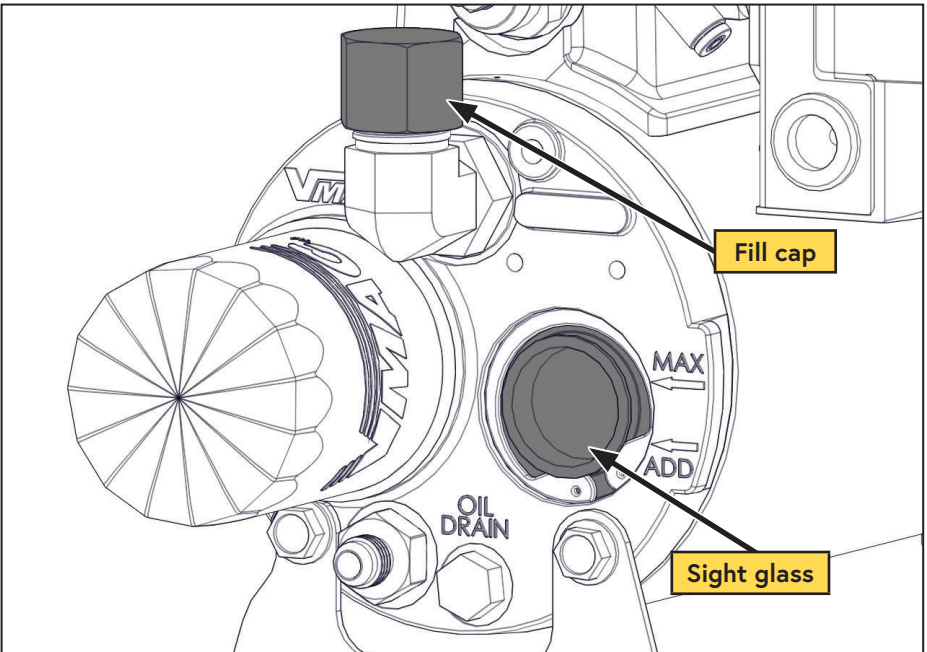

Figure 38 — Filling the WHASP Tank
- Remove the fill cap on the WHASP Tank (above the sight glass) (Figure 38).
- Using a funnel, pour oil into the tank until the oil level in the sight glass reaches the "MAX" line. **The system capacity is 4 L** (Figure 38).